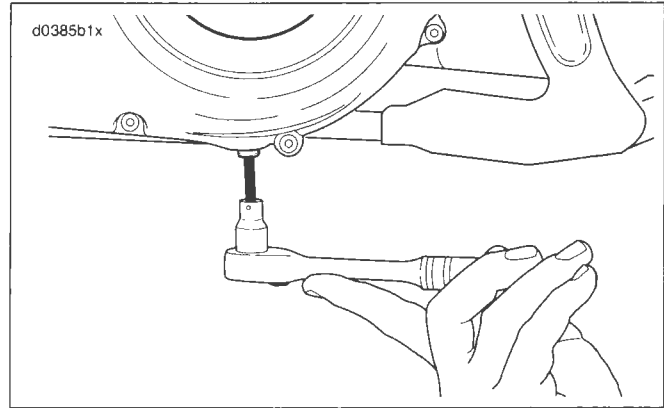

Figure 1-22. Removing Chaincase Drain Plug
1. See Figure 1-22. Remove drain plug at bottom of primary chaincase. Drain lubricant into suitable container.